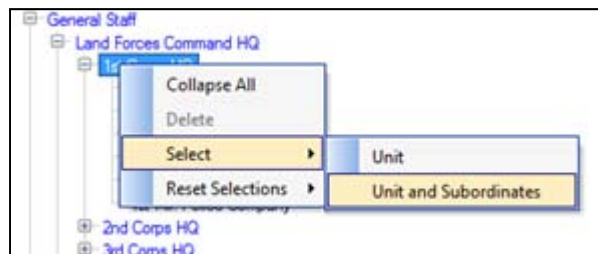

Figure 6-47. Right Pane Shortcut Menu
- If a Unit with many subordinates is to be assigned to a category, right-click on the Unit name to display the shortcut menu shown in Figure 6-47.